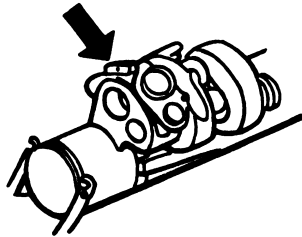

Figure 7
7. Secure the tracker electrical receptacle cover to the tracker forward shock absorber (fig. 7).